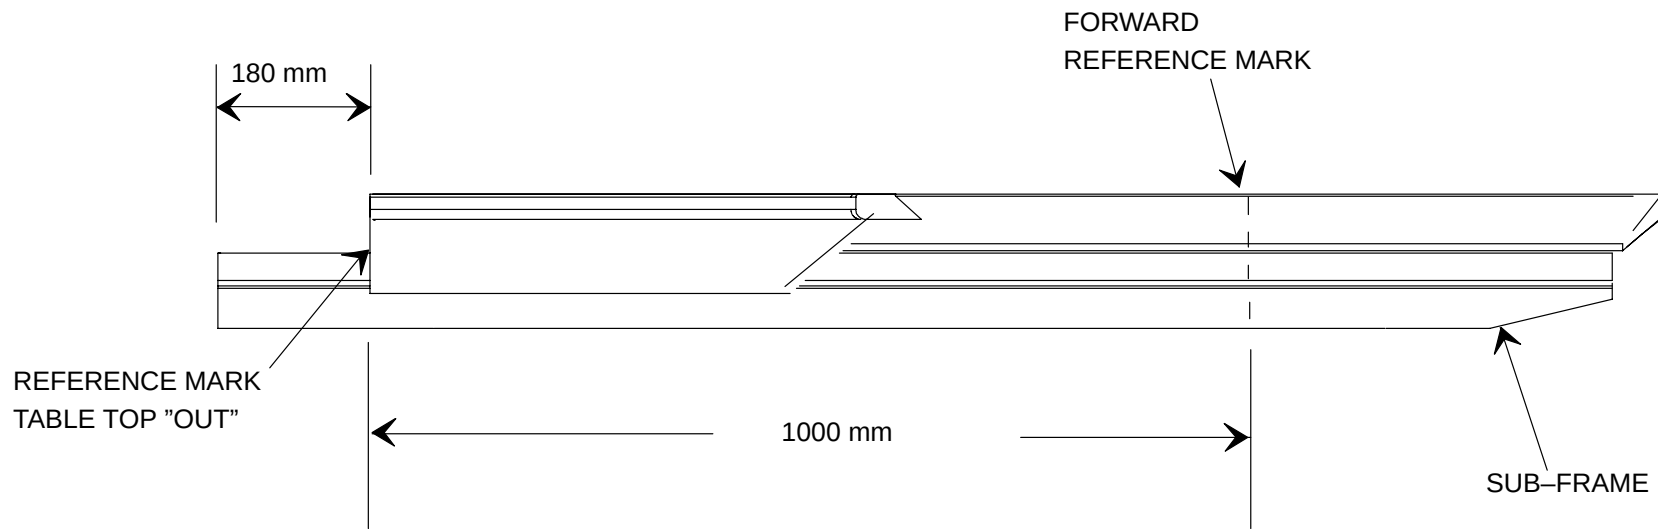

FIGURE 75 TABLE TOP "OUT" REFERENCE MARK
1. Move the table top forward **180 mm** from its rear mechanical stop. See Figure 75. Use a metric tape measure for this measurement. This position will be referred to as the Table Top "OUT" Reference Mark.